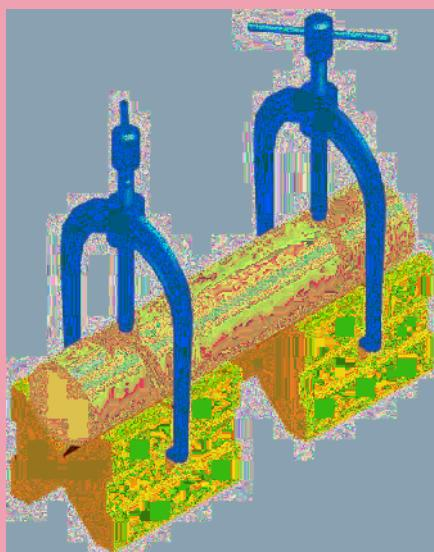
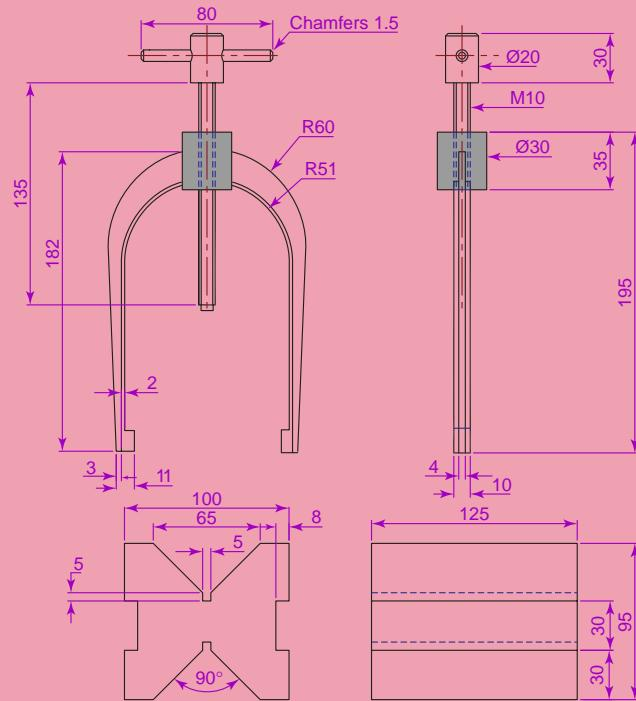

Fig. 19.18 Exercise 2
Fig. 19.19 Exercise 2 – orthographic projection
- Fig. 19.18 shows a rendering of the model for this exercise and Fig. 19.19 an orthographic projection giving shapes and sizes for the